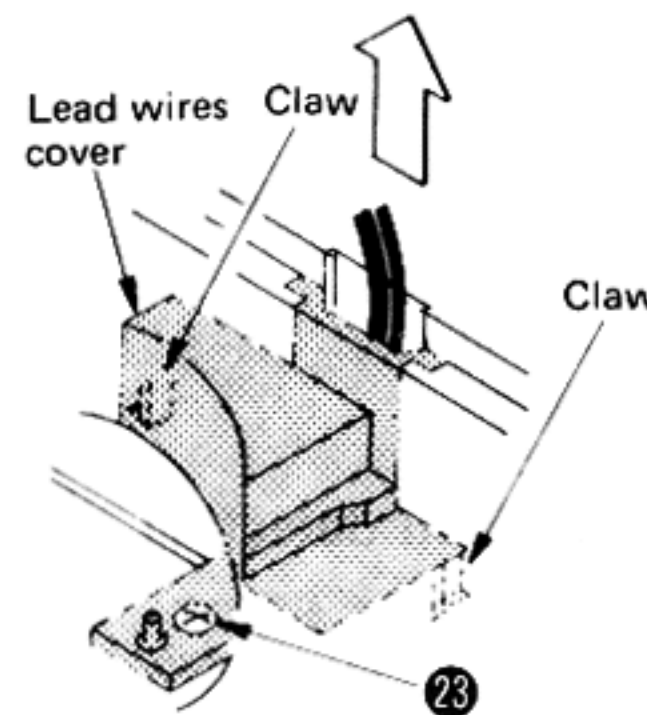

Fig. 8
2. Remove the lead wires cover setscrew (Fig. 8 : ㉓).
3. Release the 2 claws from bottom of the cabinet, then pull out the lead wires cover in the direction of the arrow. (Fig. 8).